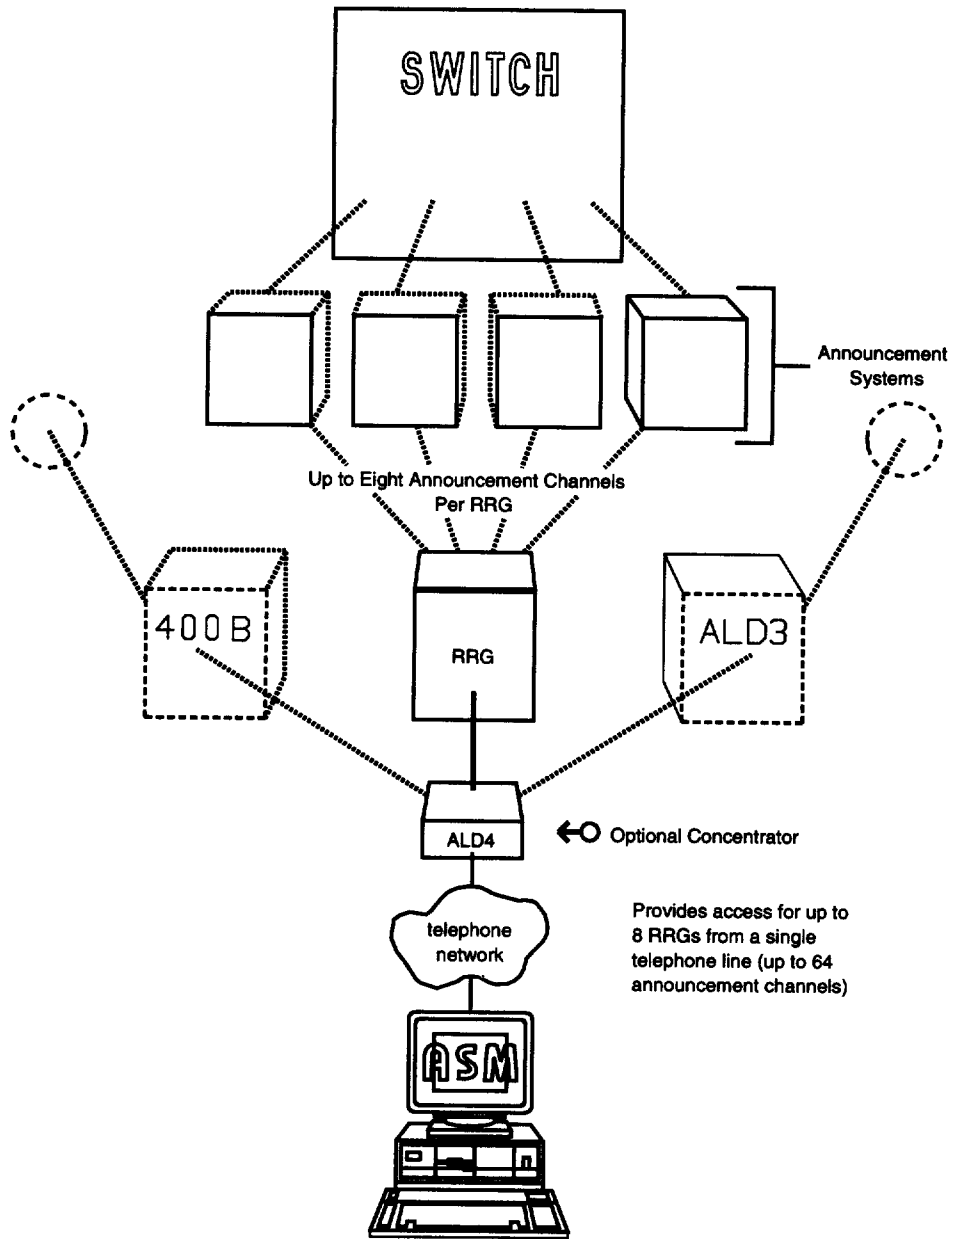

Figure 3. ASM/RRU Architecture
- 2.05** The RRC as well as the RRGs are compatible with the AT&T Announcement Systems Manager (ASM), the Announcement Systems Manager For Windows (ASMW), a PC-based workstation. These workstations store announcements and keep a database of announcement systems equipment. ASM and ASMW can download a stored announcement to a remote announcement system from a central location. See Figure 3 for the ASM/Remote Record Unit (RRU) architecture.